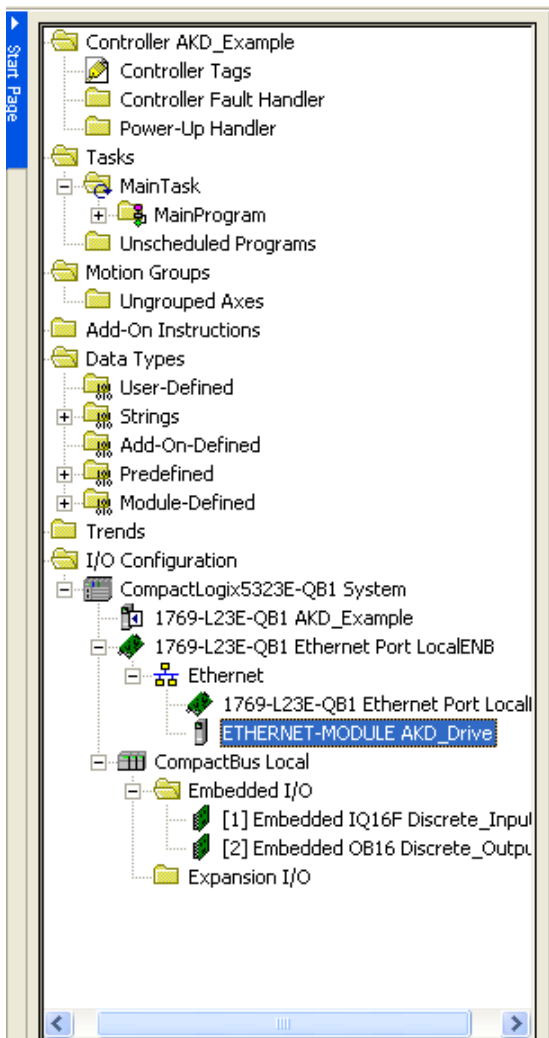

Figure 4-5: Module Successfully Added to Project
6. The drive should now be configured and will show up under the Ethernet Port (Figure 4-5: Module Successfully Added to Project)